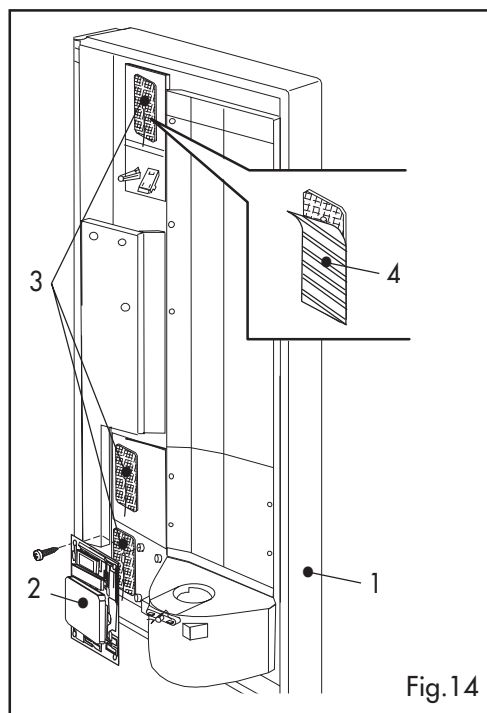
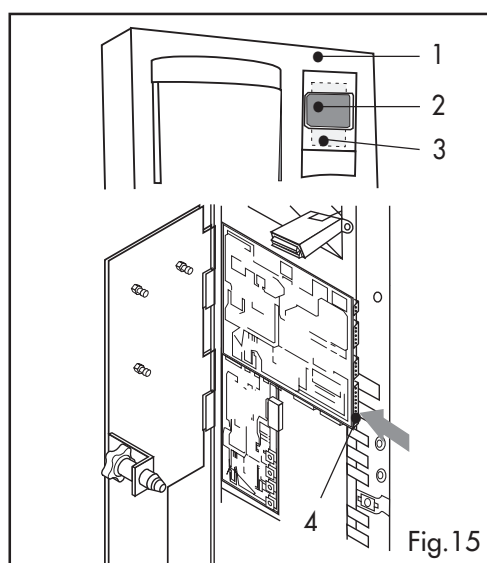

Fig.14
Fig.15
- Install the universal module ref. 2 (Fig. 14) inside the front door ref. 1 (Fig. 14) using the supplied screws.
- Place the antenna ref. 3 (Fig. 14) in one of the three positions on the front door ref. 1 (Fig. 14). Use double-sided adhesive to firmly secure the antenna in place.
- Apply the adhesive guard ref. 4 (Fig. 14), supplied with the kit, over the antenna. Make sure the antenna is completely covered and protected.
- On the front door exterior ref. 1 (Fig. 15), apply the adhesive label ref. 2 (Fig. 15) in correspondence with the antenna ref. 3 (Fig. 15) on the interior. The label indicates where to hold the Card to communicate with the Saeco Card system.
- Using the supplied flat cable, connect the universal module ref. 2 (Fig. 14) to the 20-pin connector ref. 4 (Fig. 15) on the electronic board.